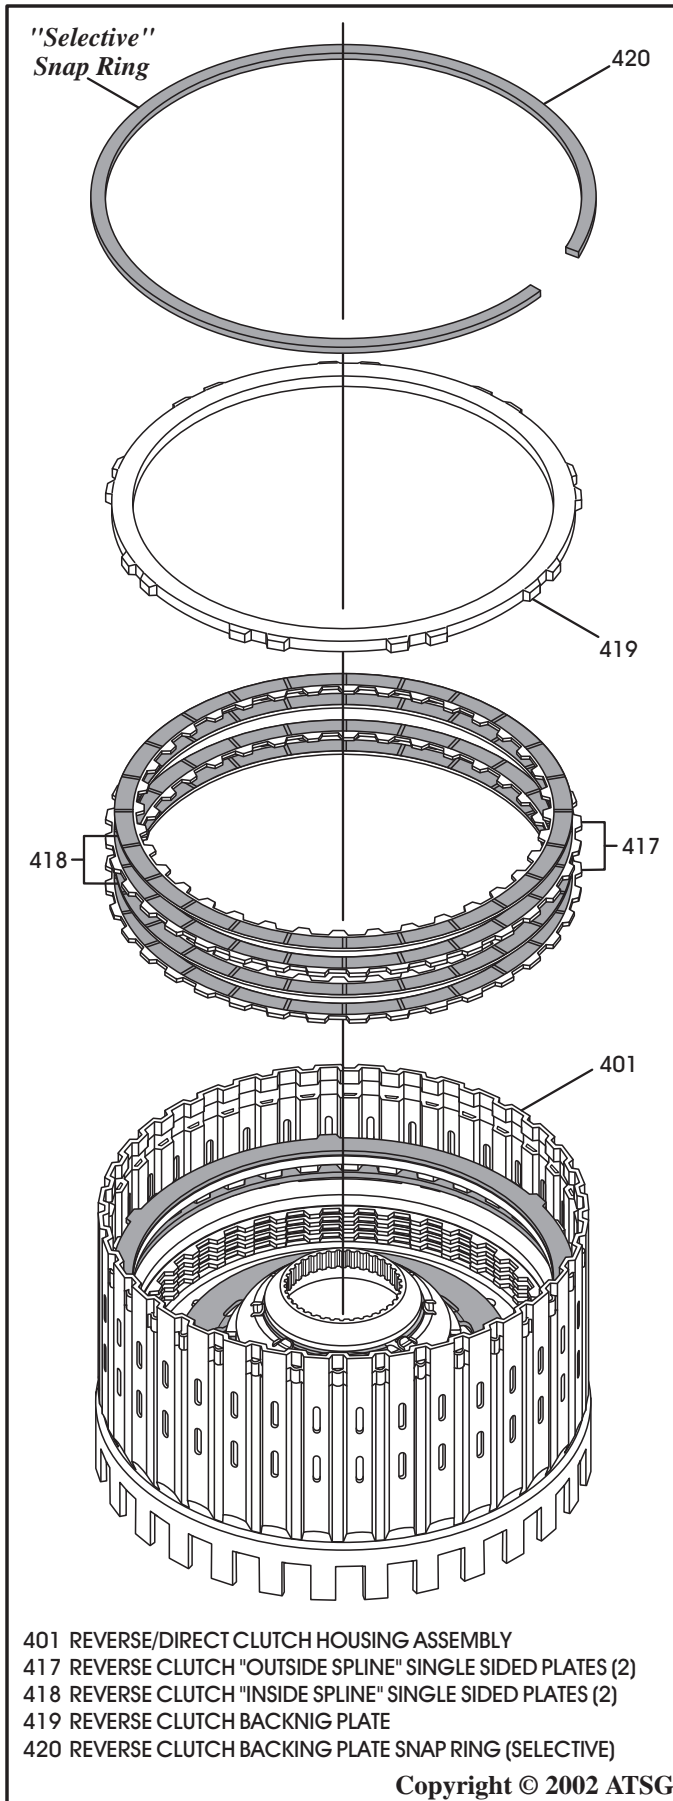

Figure 82
22. Install the reverse clutch "single sided" plates beginning with an outside spline plate first and alternating with inside plates until you have installed 2 of each, as shown in Figure 82.
Note: Lined side must be installed facing up as shown in Figure 82. Clutch plate amounts may vary by model.
23. Install the reverse clutch backing plate on top of the last inside spline plate, as shown in Figure 82.
24. Install the "Selective" backing plate snap ring as shown in Figure 82, and ensure that the snap ring is fully seated against the top of the snap ring groove in reverse housing.